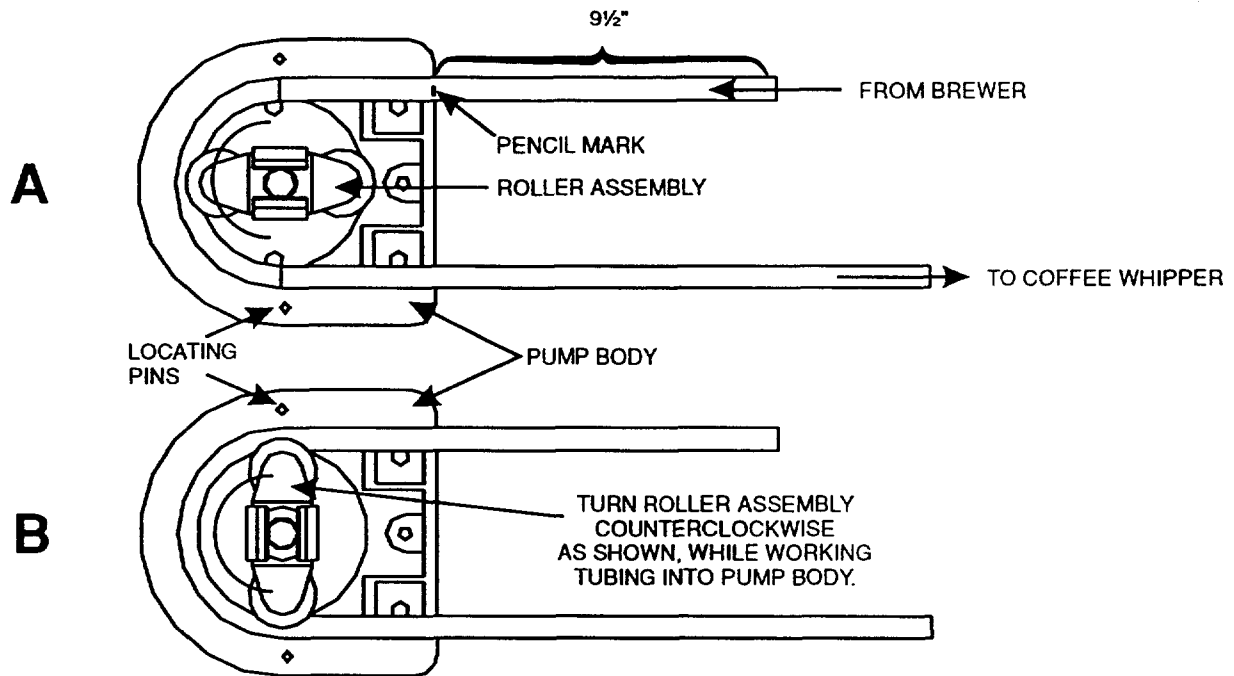

Figure 2
10. Install the new pump tubing into the pump body as follows (see figure 2):
- c. Work the tubing into the pump body while turning the roller assembly counterclockwise, as shown. DO NOT FORCE the tubing. Make sure the top of the tubing is even with the tops of the rollers. If it is lower or higher, it can get pinched, which can lead to premature failure or leaks. Before installing the pump cover, turn the roller assembly as shown in figure 2, view A.